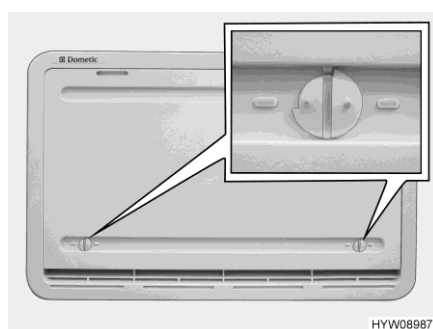

Fig. 176 Winter cover
**Winter cover** If the refrigerator is to be operated at low external temperatures, the manufacturer recommends the use of a winter cover (Fig. 176) for the refrigerator ventilation grills.
- Open both locks (Fig. 176) (groove in horizontal position).